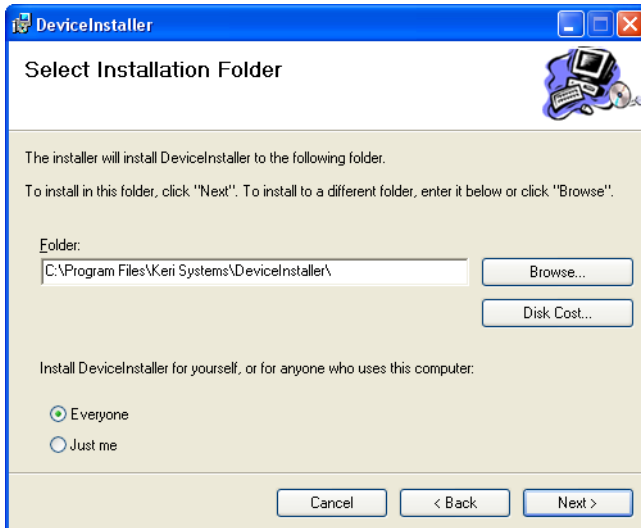

Figure 14: Select Destination Folder
5. Continuing on from Figure 12 for a new installation, click on the button to begin the installation process. The Select Destination Location window appears (see Figure 14 on page 12).